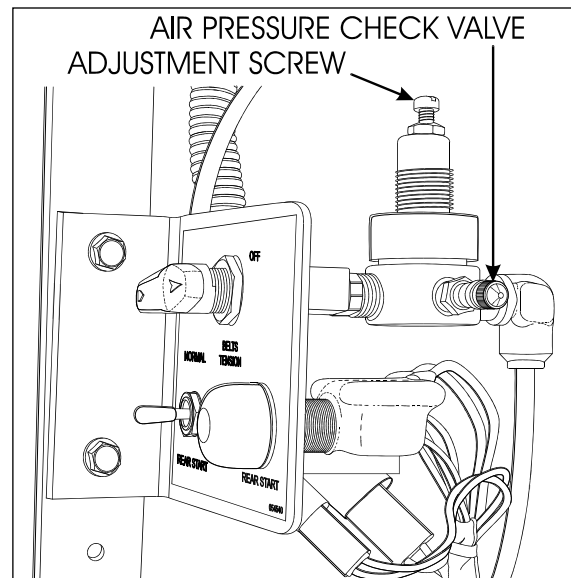

FIGURE 18: TENSIONING VALVE
1. Open engine compartment rear doors and locate the belt tensioner two-way control valve (Figure 18), mounted above the engine R.H. side door next to the pressure regulating valve, then turn handle
3. Reset belt tensioning pressure control valve (Figure 18). Pressure is factory set to 45 psi (310 kPa), periodically check proper pressure.